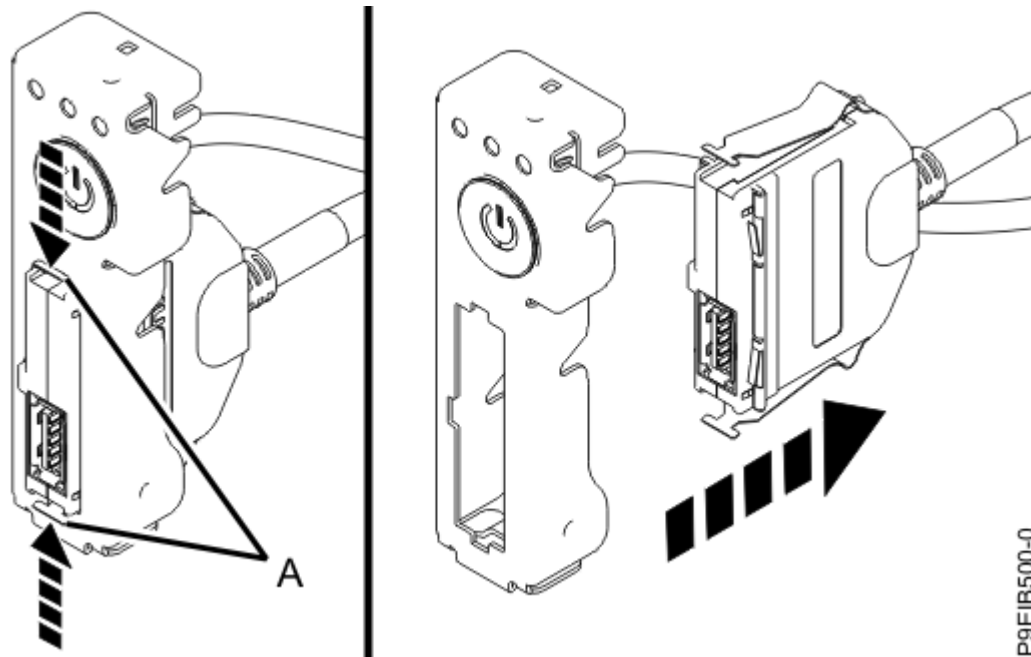

Figure 172. Removing USB cable and connector from the power switch
9. Pressing the latch releases **(A)** on the connector, disconnect the USB cable and connector from the power switch as shown in Figure 172 on page 188.